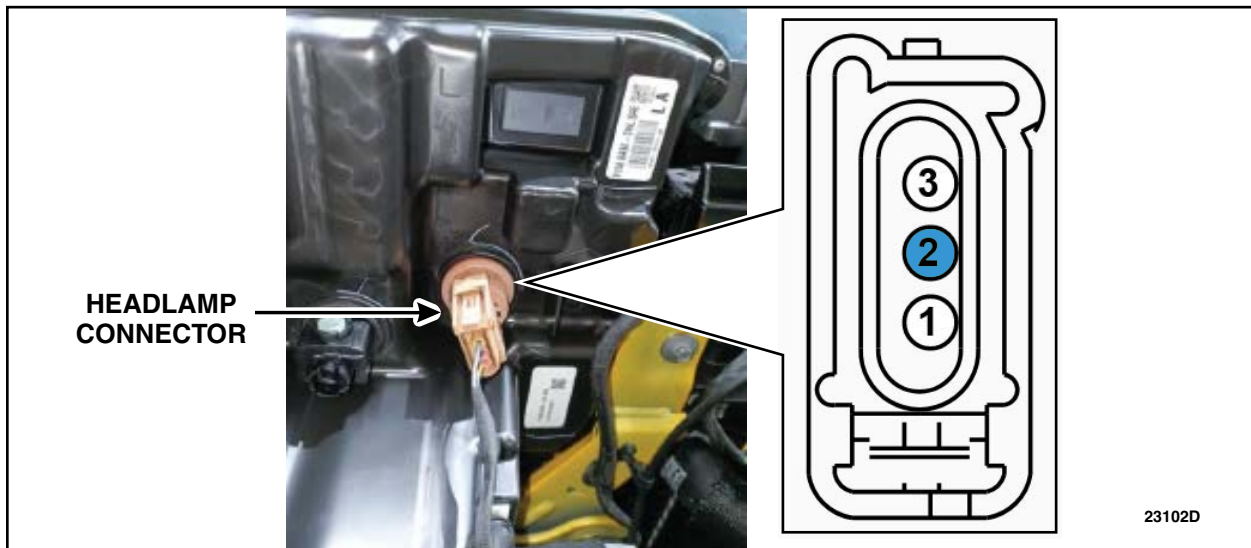

FIGURE 4
6. Access the Left Hand (LH) headlamp connector, C1284B connector and determine the color of the wire in cavity 2, should be blue with a gray tracer. See Figure 4.